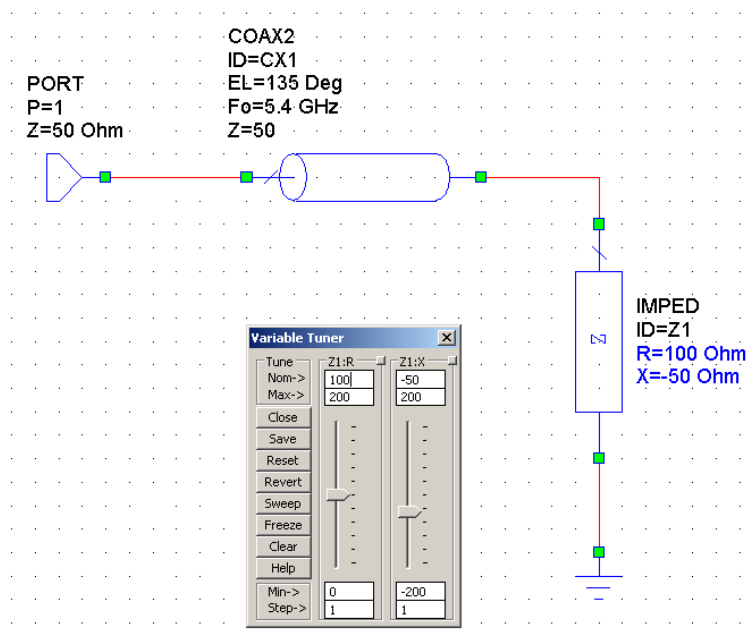

Figure 3.7: Chart 1 : Tune Tool Dialogue Box
- In the tune dialogue box set the 'min' and 'max' values to -200 and +200 respectively for both the resistance and reactance. Set the 'step' parameter to 1 See figure 3.7